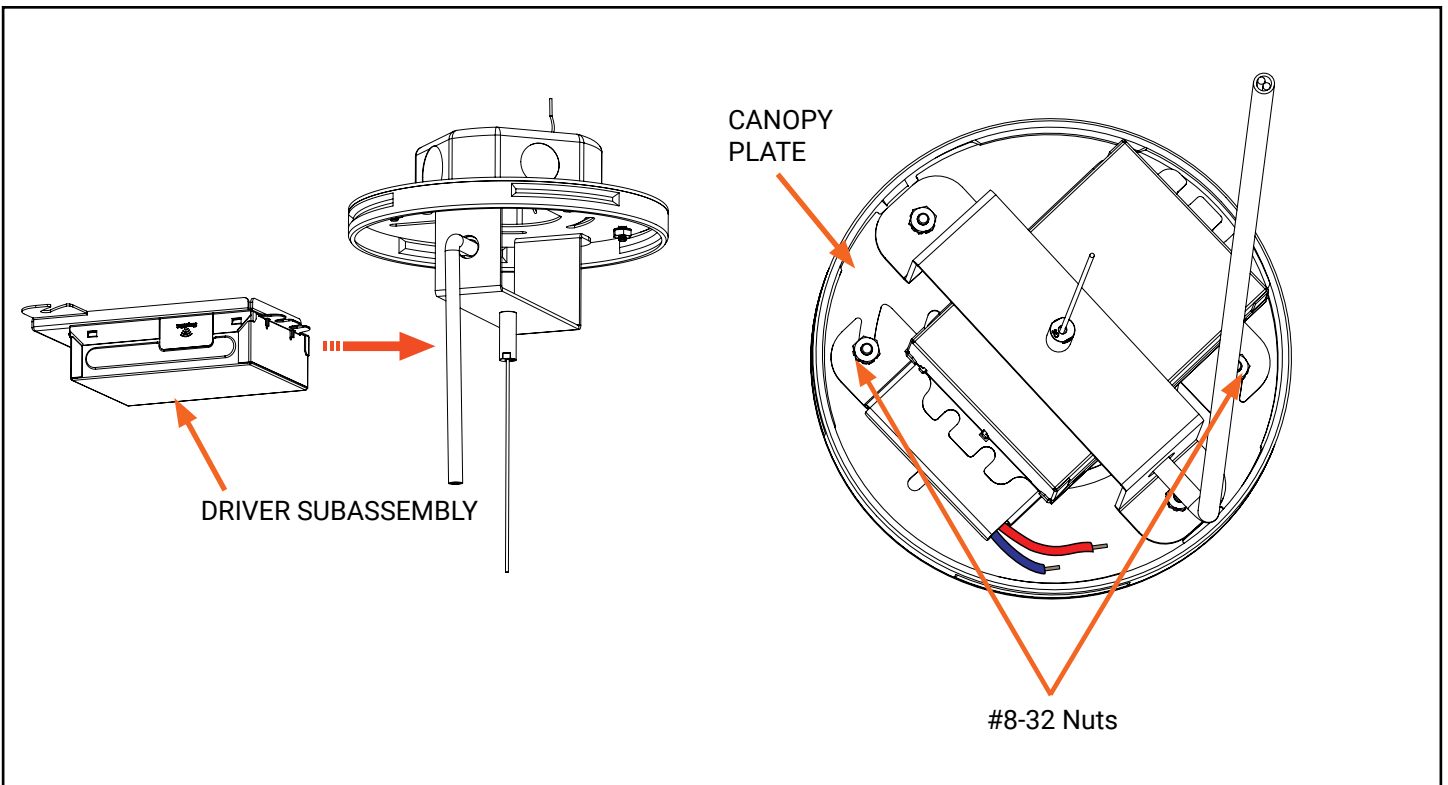

Figure 8
10. Reinstall the driver subassembly by aligning with studs and rotate Clockwise and secure with two **#8-32 nuts (G)**, Make sure wires will not interfere with assembly while rotating. (Figure 8)